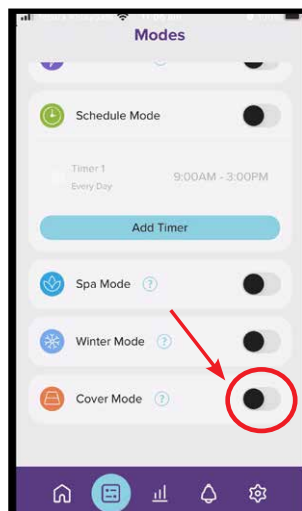

Figure 9.79
- In the “modes” menu, scroll the screen to reveal **COVER MODE**. **COVER MODE** can be toggled on, or off by simply sliding the switch (ref Figure 9.79).